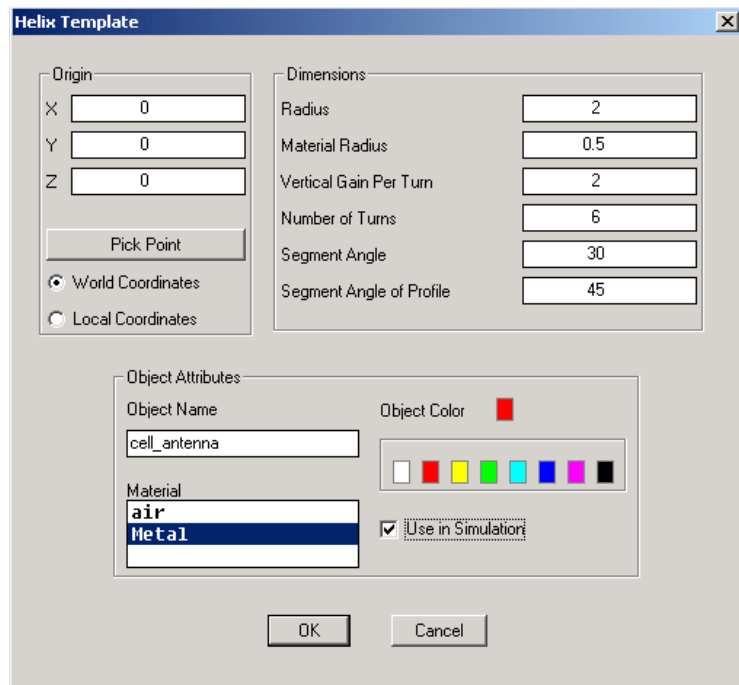

Figure 32 Helix Template
- 8 Give the helix the dimensions shown in Figure 32.